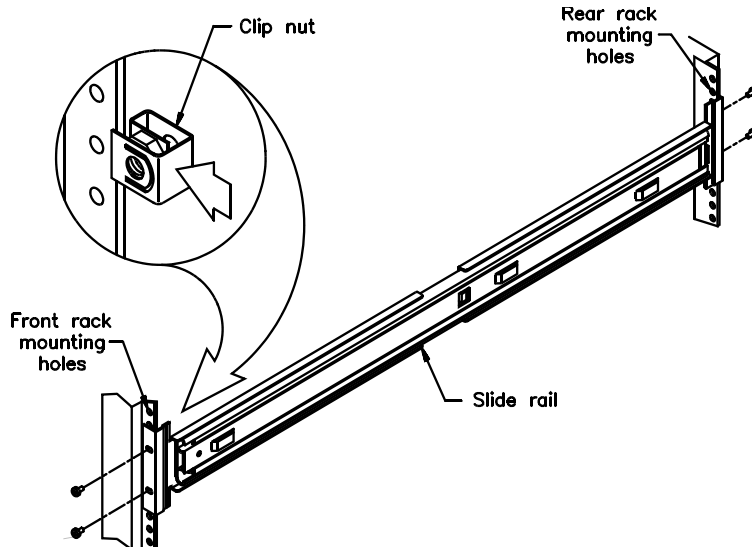

Figure 1-2 Attaching the slide rails
2. If the rack does not have threaded holes, attach eight of the ten clip nuts over the holes (see Figure 1-2).
3. Using a T-25 TORX driver and eight 10-32 × 0.5 pan head screws, attach, but do not tighten, the slide rails to the rack (see Figure 1-2).